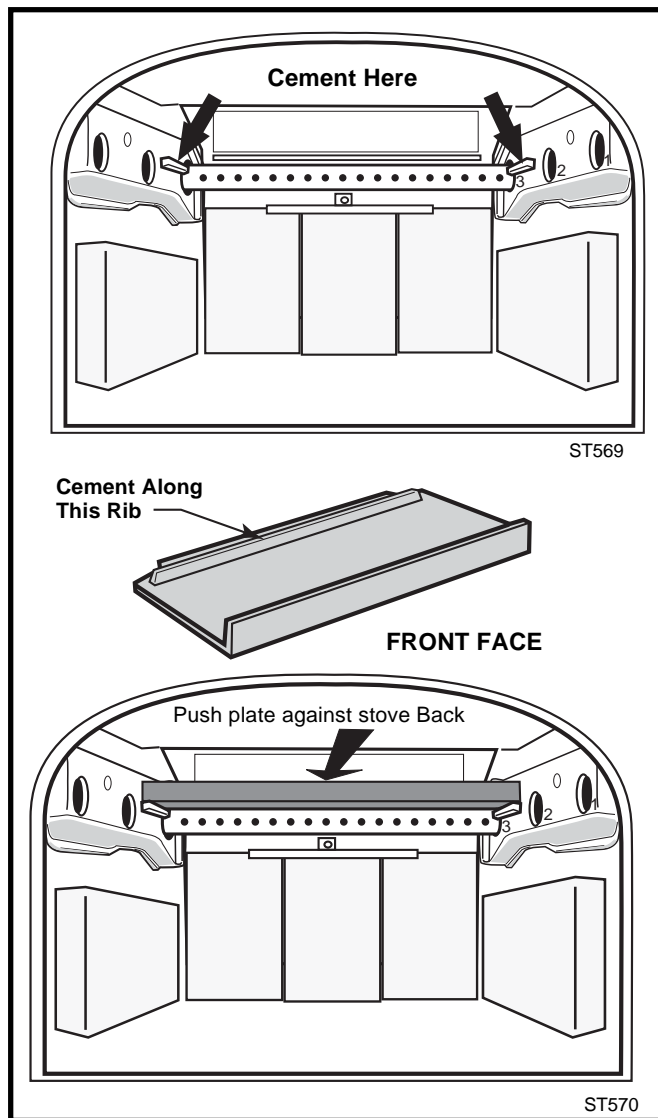

Fig. 29 Installing the Smokesheff.
Look inside the firebox and locate the position for the Smokesheff. It will seat against the upper Back, directly under the Flue Collar. It is supported by ribs cast into the air manifolds on either side and along the back plate. (Fig. 29)
2. Apply a bead of cement along the top of each Side Rib on which the Smokesheff will rest. (Fig. 29)
3. Light the newspaper and close the door. Gradually build up the fire by adding a few 3-5" (80-120 mm) diameter splits. (Fig. 29) If this is one of the first few "break-in" fires, let the fire burn brightly, and then let it die out.